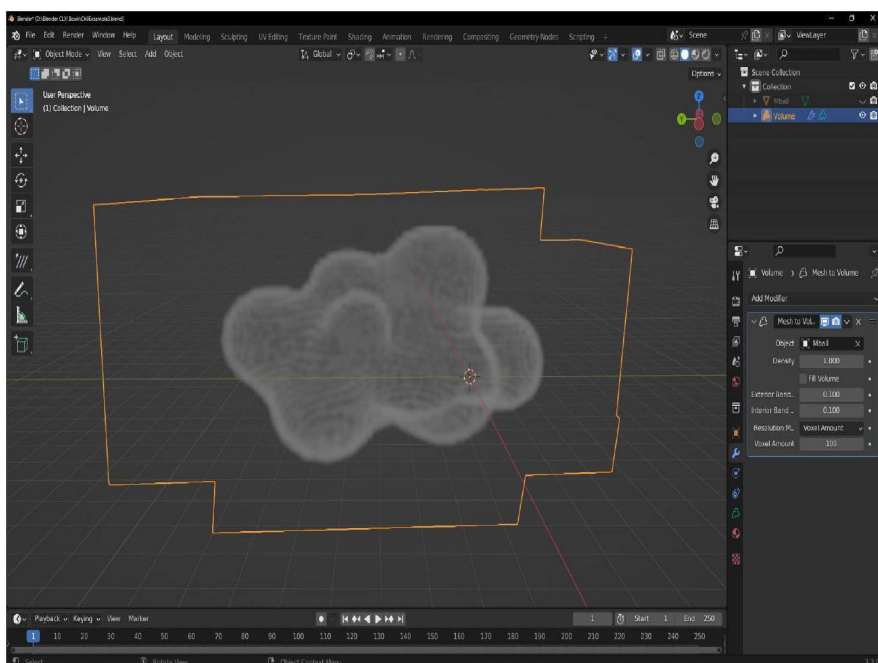

Figure 9.20: Empty Volume with Mesh to Volume Modifier applied
13. Disable **Fill Volume**, to limit the effect to the boundaries of the mesh as shown in *Figure 9.20*: